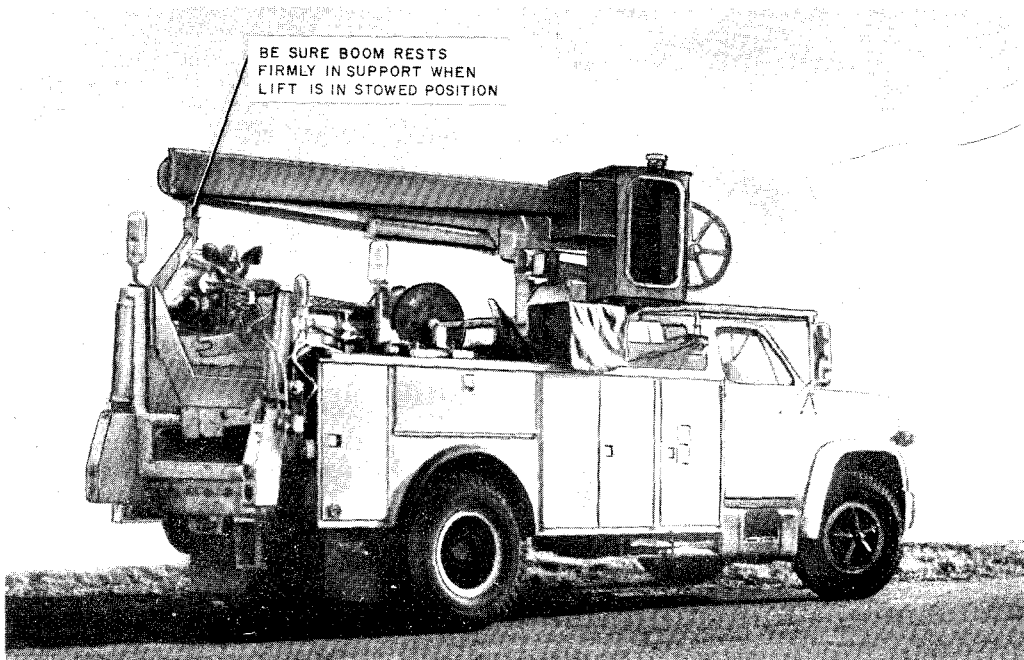

Fig. 8—Lift in Stowed Position
3.02 Before moving the truck at normal road speeds, be sure the lift is in the stowed position with the lower boom resting firmly on its support and the upper boom completely folded as shown in Fig. 8. If the booms are not properly stowed, damage to the lift can result from road shock.